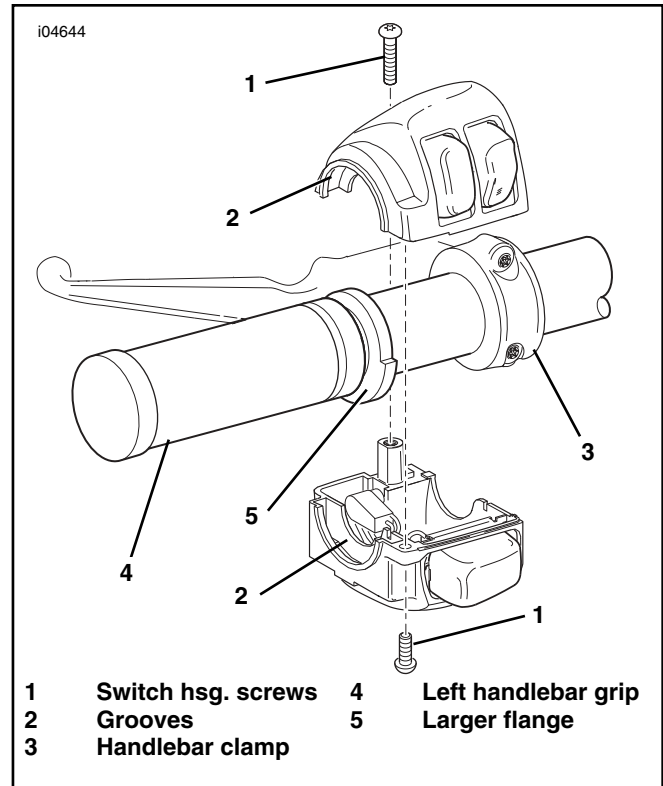

Figure 1. Left Handlebar Switch Housing
1. See Figure 1. Using a T27 TORX drive head, remove the two screws with flat washers securing the handlebar clamp (3) to the clutch lever bracket. Remove the clamp and position the clutch hand lever assembly away from the handlebar.
2. Using a T25 TORX drive head, loosen but do not remove the upper and lower switch housing screws (1).